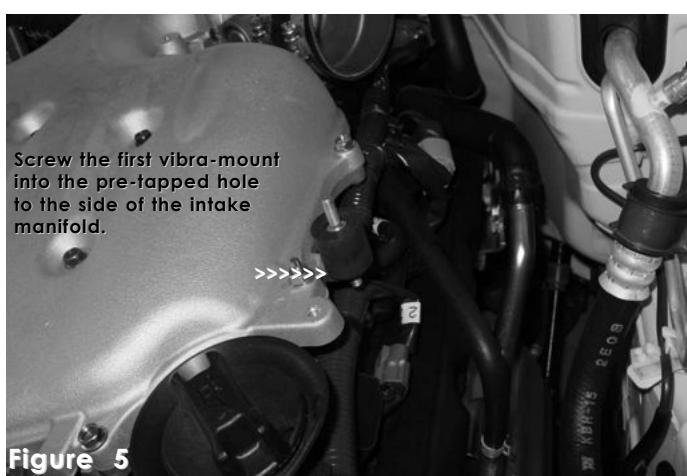

Figure 5
5. Take the remaining vibra-mount and screw it into the pre-tapped hole located to the side of the intake manifold cover. (See fig. 5)